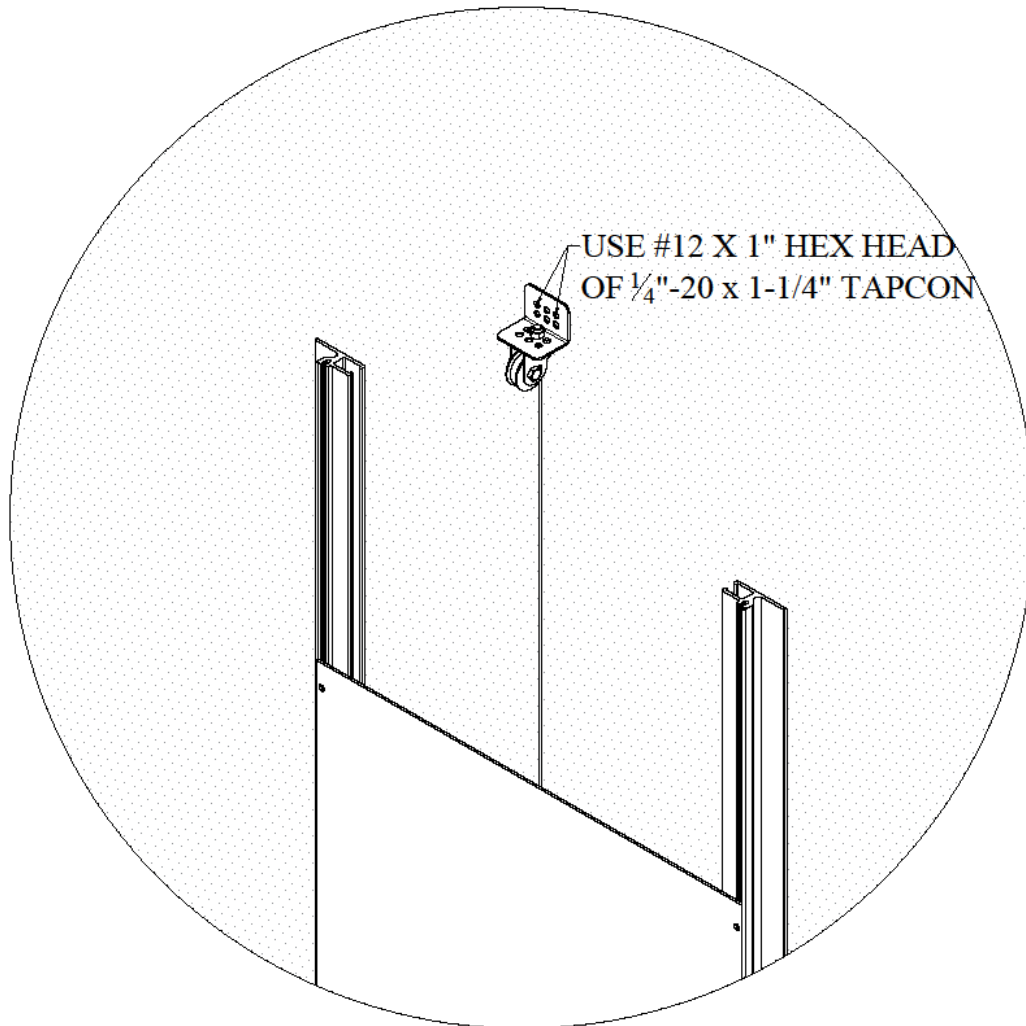

Figure C.1
1. Attach the pulley bracket (#6726) to the building wall above the kenl-dor using (2) #12 x 1-1/2" Hex Head Screw or 1/4"-20 x 1-1/4" Tapcon (Not provided), depending on your wall material. The bracket should be approximately 4-6" above the track, but can be higher if needed. If a cable guard is being used, be sure that the pulley bracket is high enough that the cable does not rub the cable guard as this may damage your equipment. See Figure C.1.